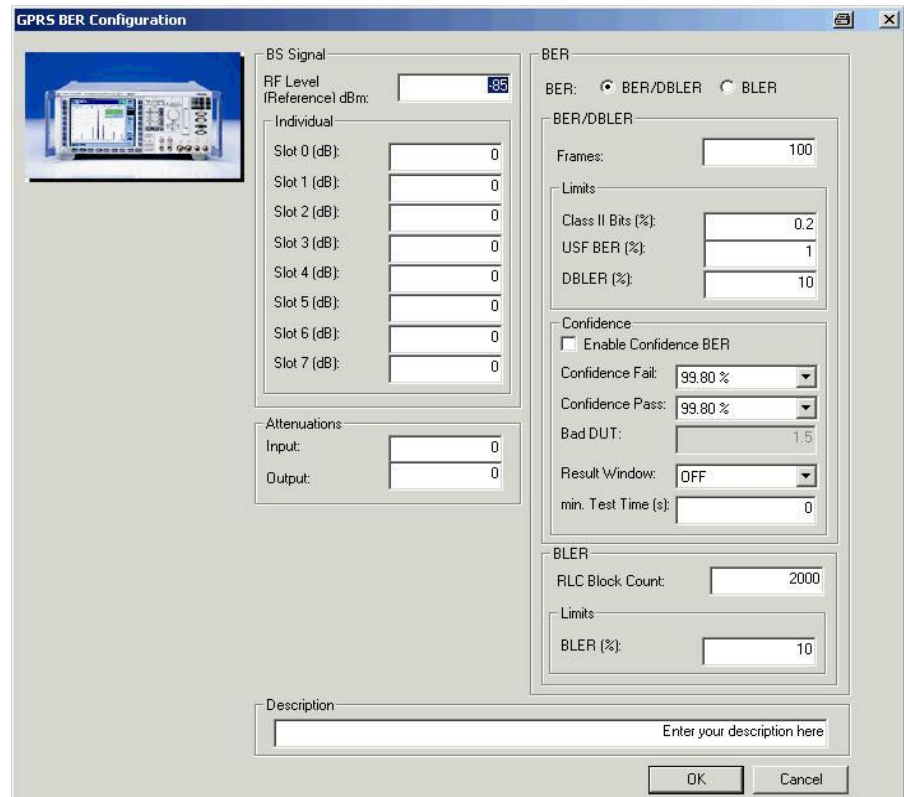

Figure 31 - GPRS BER/BLER test
The receiver measurements (RX Quality) in (E)GPRS are performed in this module (Figure 31).